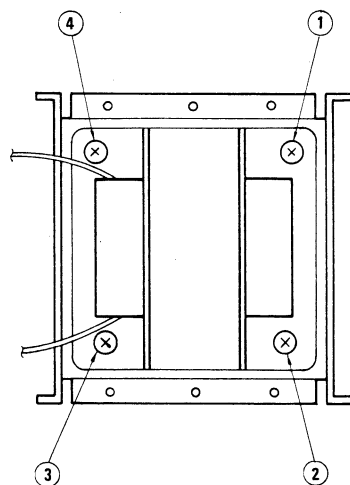

Figure 2
- Remove Power Trance Holder as shown in Figure 2, #1 Photo 3.